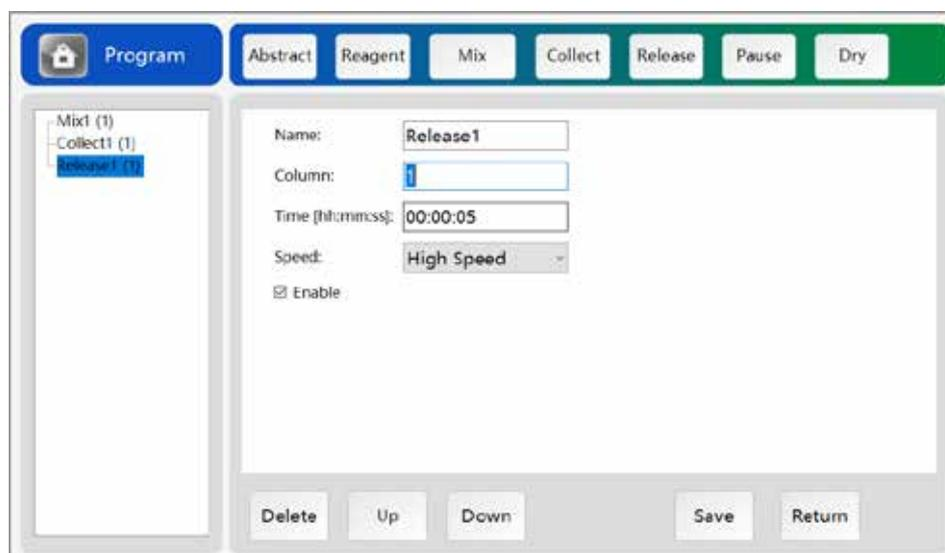

Figure 4-12 Release
**Release:** The same function as the release magnetic beads in the " Initial Mixture" Function above. The release magnetic beads in this step can be set to put the collected magnetic beads from a certain column into the corresponding column for flexible use by users, as shown in Figure 4-12.